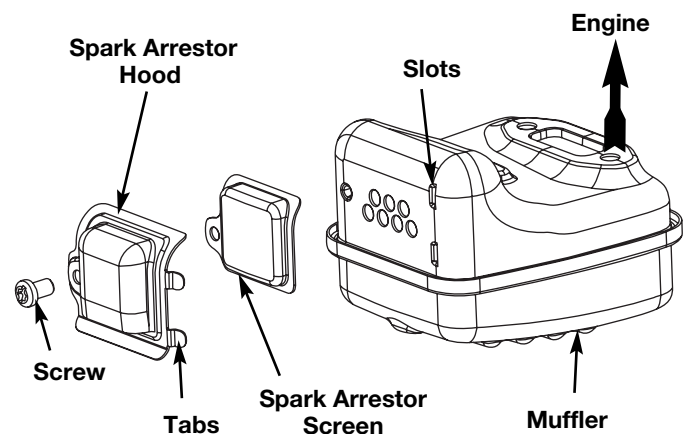

Fig. 29
2. Locate the muffler, but do not remove it. Find the screw on the bottom of the muffler (Fig. 29). Remove the screw using either a torx #20 or flat blade screwdriver.